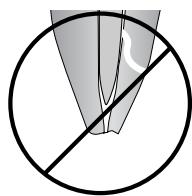

Fig 1
2. Fit the master gutta percha point (We recommend the use of EDS' Medium Gutta Percha Points. Cat. No 5000-M for the SafeSider Technique) and verify that it goes to working length. It may be necessary to trim the apical portion in order to obtain the snug apical fit indicated by 'tug-back.' This process is depicted in figures 1, 2, and 3.